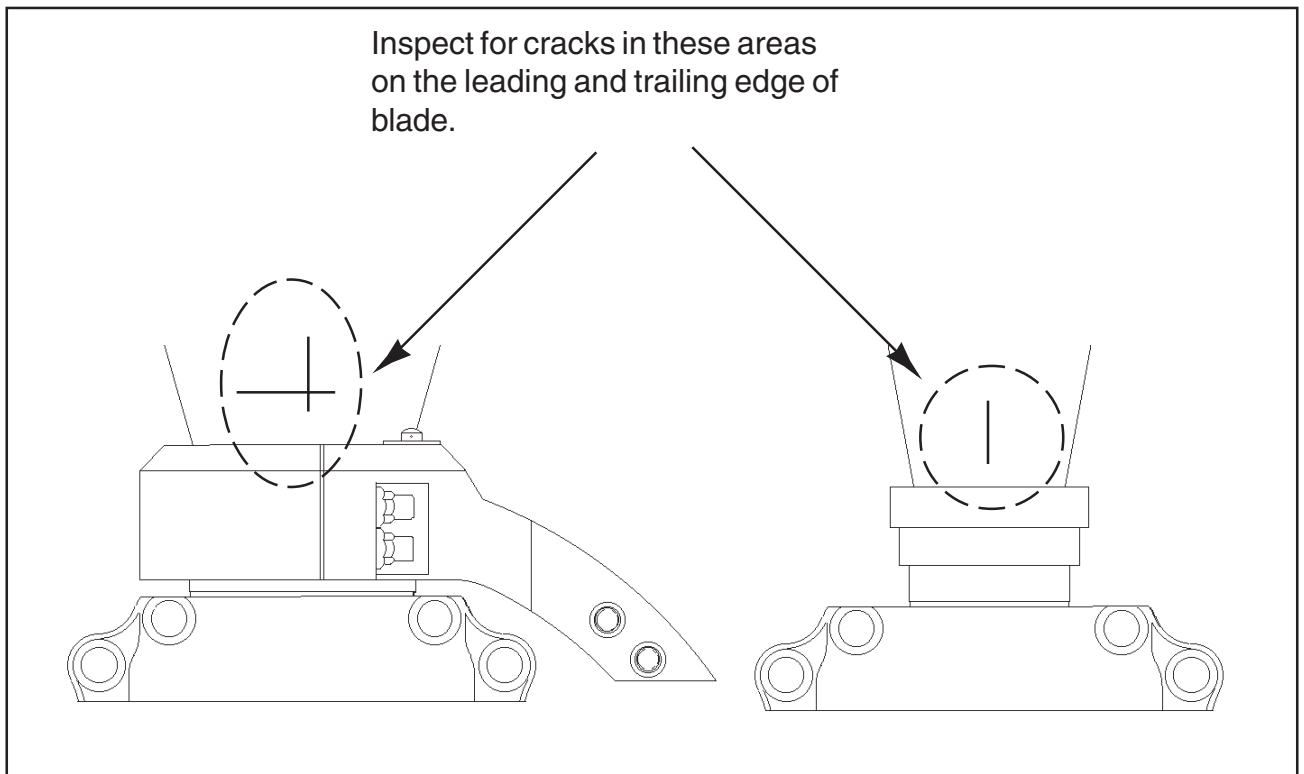

Figure 1
- (1) Remove spinner in accordance with the Propeller Owner's Manual No. 145 (ATA 61-00-45).
- (2) Inspect (on wing) for cracks in the blade shank area as shown in Figure 1. If the blade has counterweights, inspect around the blade shank and counterweight assembly.
- (3) If no cracks are visible, reinstall spinner and make a log book entry indicating compliance with the inspection specified in this Service Bulletin and indicate when the next inspection is due.
- (4) If a crack is present: